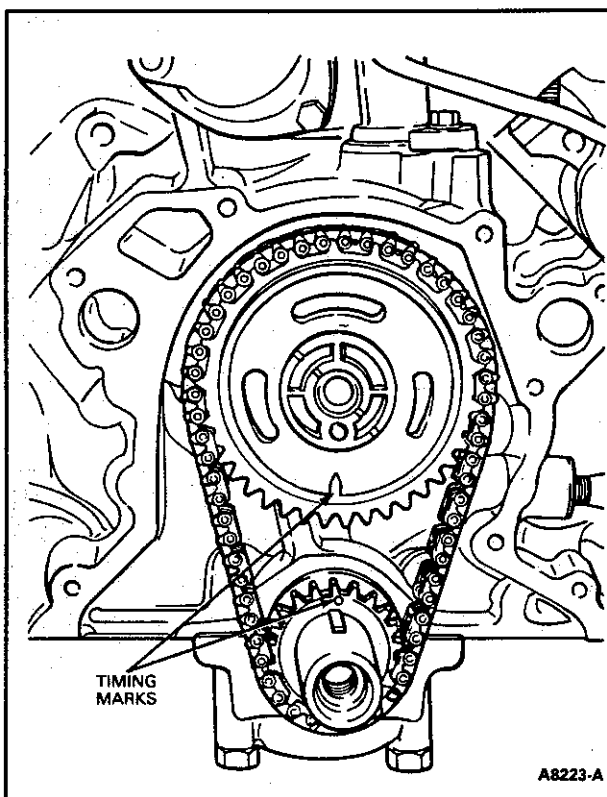
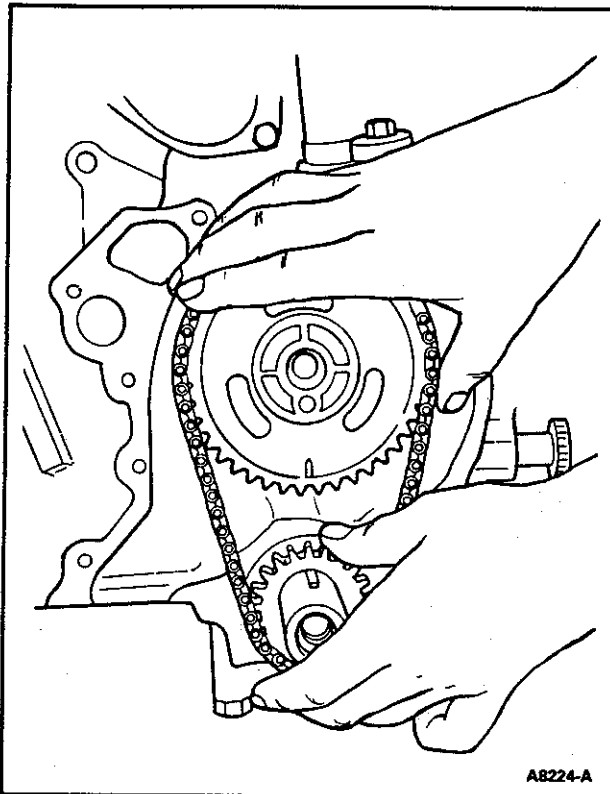

Figure 55 Aligning Timing Marks
Figure 56 Timing Chain — Removal or Installation
9. Crank the engine until the timing marks on the sprockets are positioned as shown in Figure 55.
10. Remove the camshaft sprocket cap screw, washers and fuel pump eccentric. Slide both sprockets and the timing chain forward, and remove them as an assembly (Figure 56).
1. Position the sprockets and timing chain on the camshaft and crankshaft simultaneously (Figure 56). Be sure the timing marks on the sprockets are positioned as shown in Figure 55.